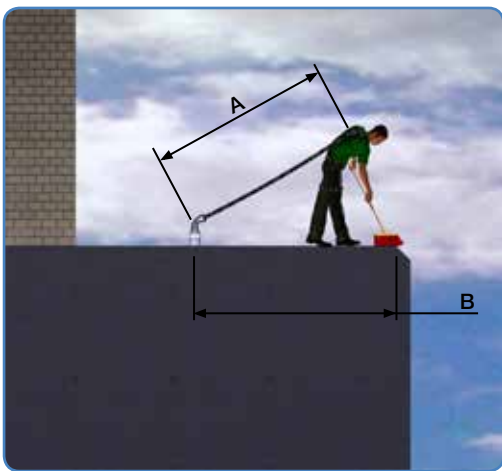

FIG 1
- The lanyard length A (Fig 1)
- The distance from the Anchor to the fall hazard B (Fig 1)